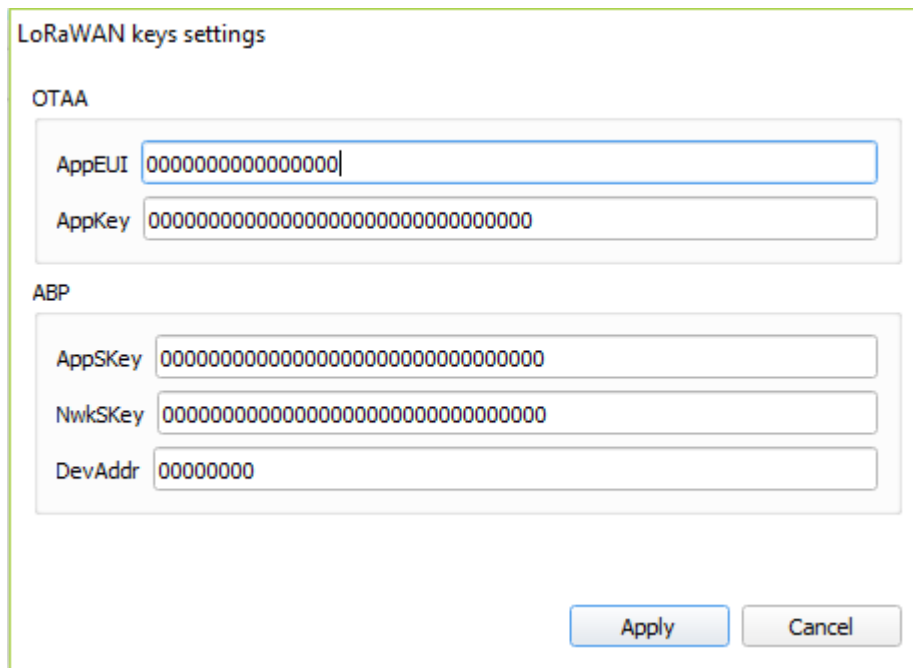

Figure 12 — “Edit device keys” window at “Key management” field
3.4.2.3 «Key management» (not displayed in the "Simple" mode) – allows you to change the factory device activation keys, or reset the keys back to the factory settings (fig. 12).